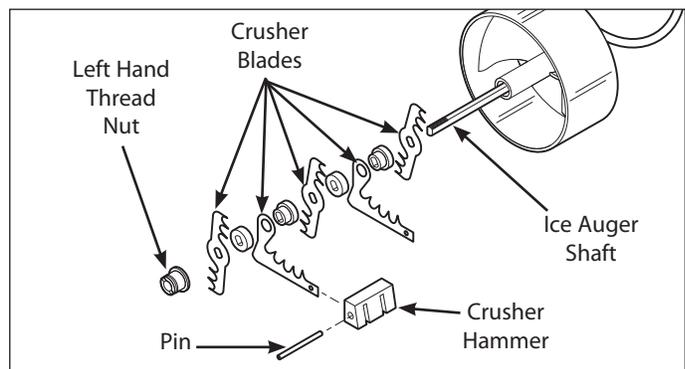

Figure 6-94.
7. The auger nut is a left hand thread round plastic nut. Remove to gain access to the crusher blades. Each blade is separated by a spacer. A crusher hammer is mounted between crusher blades number two and four. A pin is pressed into the crusher hammer securing it to the crusher blades. Remove crusher hammer by removing the crusher blades from the shaft, then using a 3/16" diameter or smaller punch, and press out pin. (See Figure 6-94)